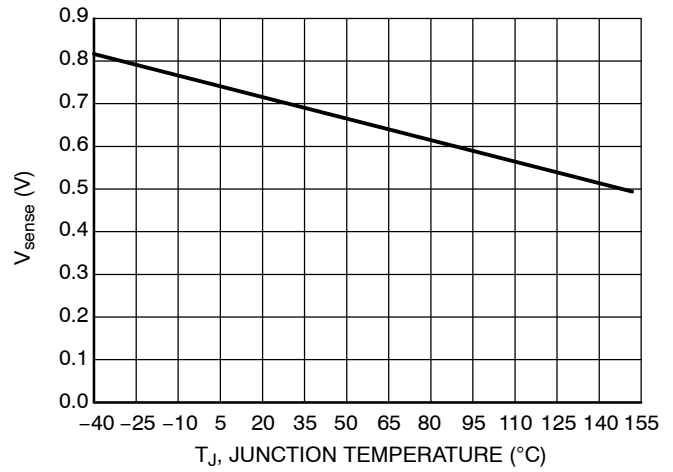

Figure 2. V_{sense} vs. Junction Temperature
- a. $R_{ext} = V_{sense} \text{ (see Figure 2)} / I_{LED}$